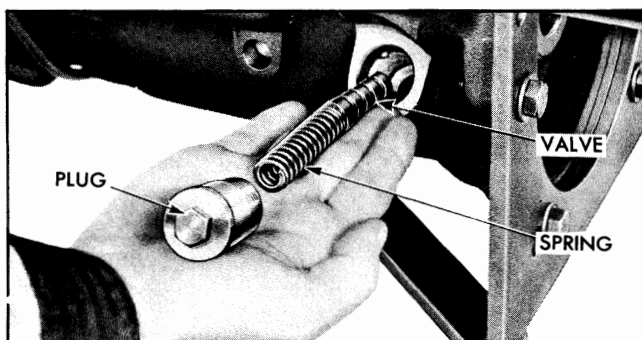

Fig. 7D-162 Installing Pressure Regulator
2. Install pressure regulator plug assembly (Fig. 7D-162) and tighten to 5 lb. ft. torque. **CAUTION:** Over-tightening of pressure regulator may push pump away from side of case causing an oil leak between passages in pump and passages in case.